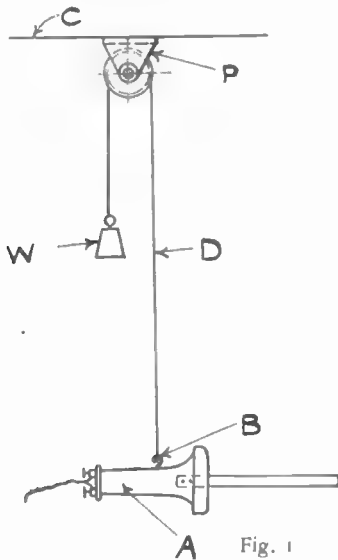

Fig. 1
Of course I rewound my receiver for a higher resistance, as it was only 75 ohms. I did this, using 1,000 feet of number 50 single silk covered copper wire. I then procured a small pulley, P, Fig. 1, and fastened it securely to the ceiling (C, Fig. 1), directly above my wireless table. I then took a light cord about 12 feet long, or the distance from my table to the pulley, and back one-quar-
ter this distance again (D, Fig. 1), and passed it over the pulley and fastened one end of the weight (W, Fig. 1), which is a lead or iron chunk, weighing one ounce less than the receiver (A, Fig. 1).
I then found a point (B, Fig. 1), where the weight of the ends of the receiver balanced and screwed a small screw eye into it, as shown. I now fastened the other end of the cord to the screw eye. The receiver now practically weighed but one ounce. But as it is handier to have a head band and have
-FIG. 1-
fasten a piece of wire around the other binding post and connect it with the binding post in the center of the board. After this is done make the handle. The handle can be made from a piece of brass 3 inches long and 1/16 inch thick cut as shown in Fig. 1. A rubber post, procured from a supply house, is screwed to the free end of handle. After this is made make a hole about 1/4 of an inch from one end. This hole should be large enough so as to allow the binding post in the center to go through.